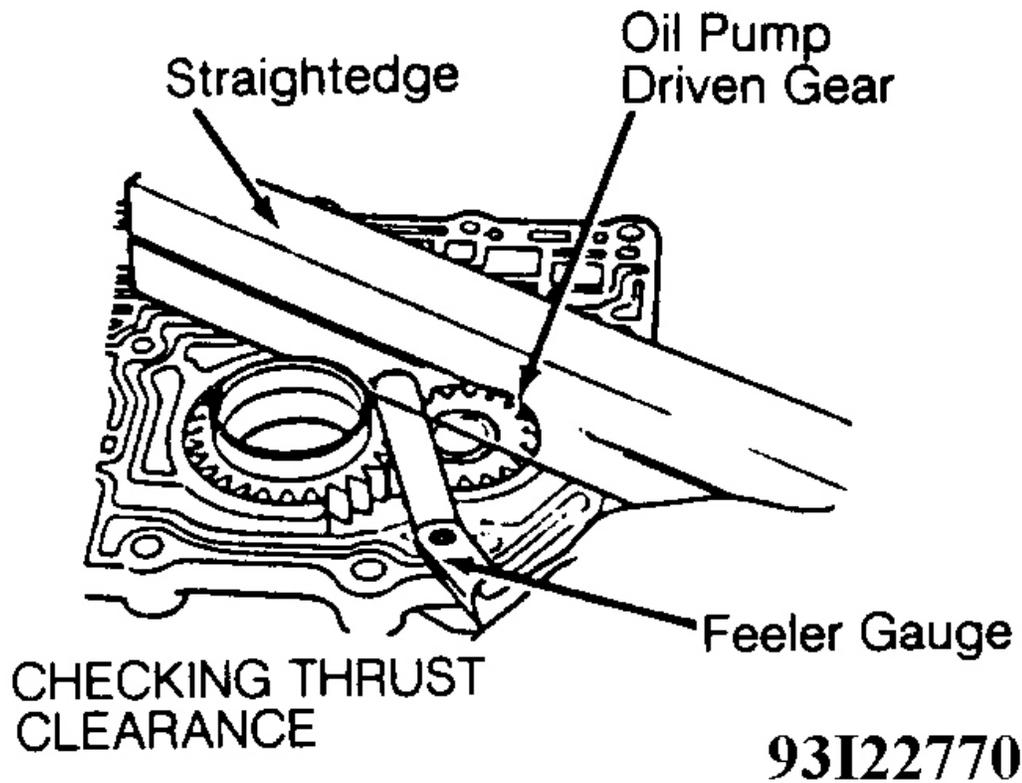

Fig. 10: Measuring Oil Pump Clearances (1 of 2)
3. Using feeler gauge, measure thrust clearance of oil pump driven gear between oil pump driven gear and straightedge. See **Fig. 10** . Replace oil pump gears and/or main valve body if thrust clearance is not
- Using feeler gauge, measure side clearance between tip of gear teeth and main valve body on both gears. See **Fig. 10** . Replace oil pump gears and/or main valve body if side clearance is not within specification. See **OIL PUMP SPECIFICATIONS** table.